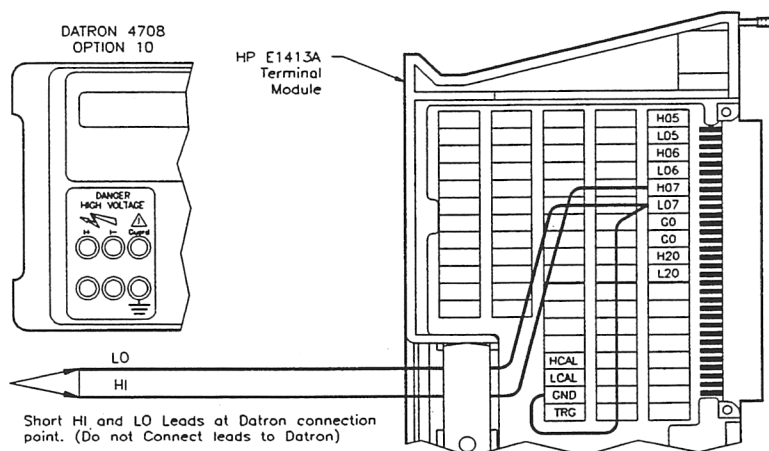

Figure 2-3. Channel Tare/Calibration Connections
- For channel tare/calibration connections, see Figure 2-3.